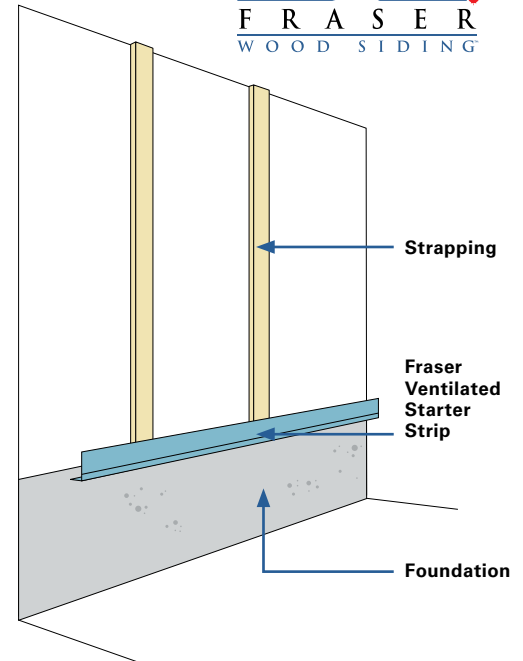

Fig. 11
- Attach with nails or screws every 16". (See Figure 11)